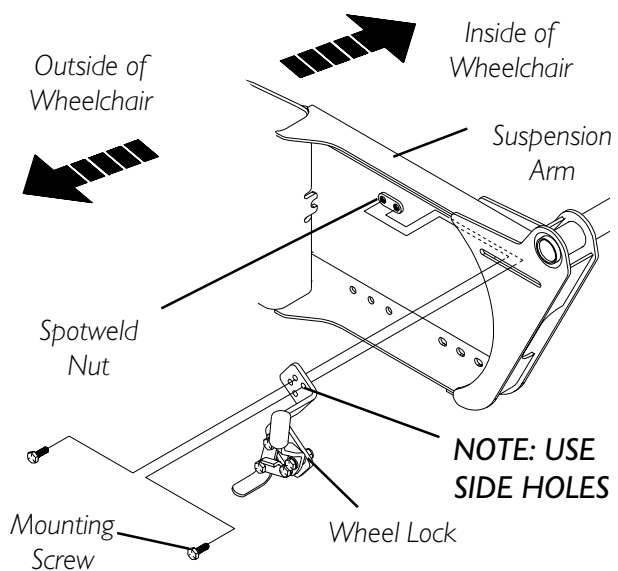

FIGURE 6 - INSTALLING WHEEL LOCKS FOR STANDARD GEARLESS/BRUSHLESS MOTOR ASSEMBLIES
INSTALLING WHEEL LOCKS FOR STANDARD GEARLESS/BRUSHLESS MOTOR ASSEMBLIES (FIGURE 6)
1. Position the wheel lock on the **OUTSIDE** of the suspension arm and the spotweld nut on the **INSIDE** of the suspension arm as shown in FIGURE 6.
2. Loosely assemble the wheel lock and spotweld nut to the suspension arm with the two (2) mounting screws provided using the two side holes as shown in FIGURE 6.